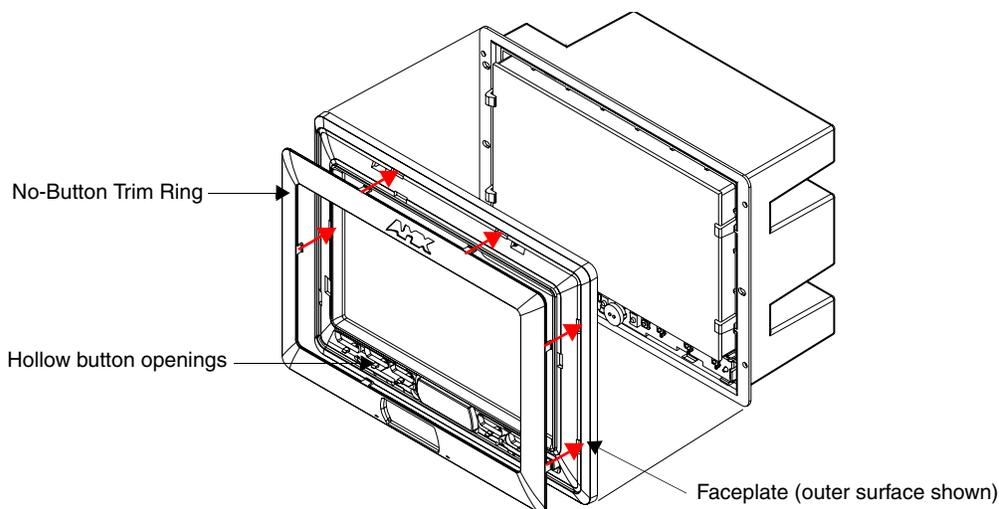

FIG. 31 Inserting the No-Button Trim Ring
8. Gently insert the Trim Ring latches into their corresponding openings on the outer surface of the internal Faceplate (FIG. 31).